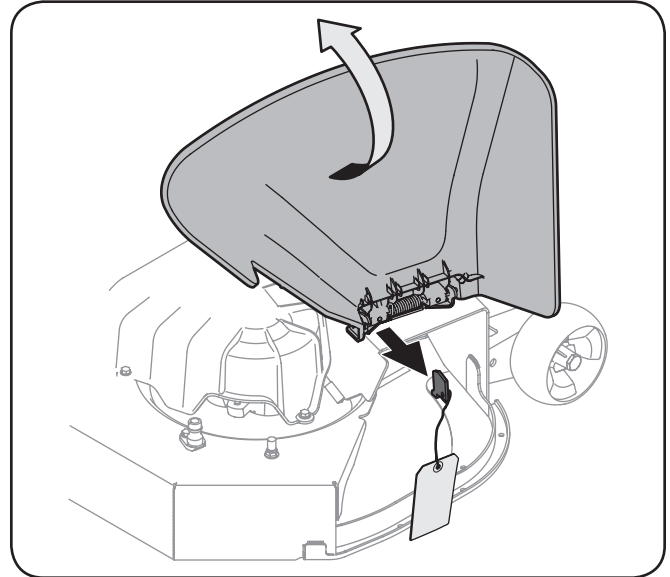

Figure 3-8
5. Holding the chute deflector fully upward, remove the stop bracket by grasping it and rotating it clockwise. Lower the chute deflector Figure 3-8.